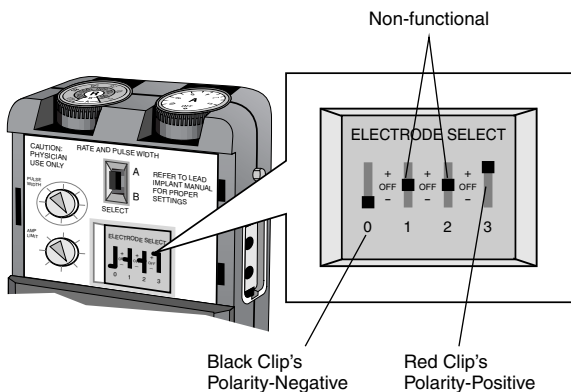

Figure 6. Set Electrode Select switches.
Caution: The switches on the 3625 Test Stimulator corresponding to electrodes 0 and 3 must be manually set to establish a circuit. One switch must be positive and the other switch negative. If the 0 and 3 electrode switches are not set accordingly, no stimulation will result. Refer to Figure 6, page 25.
- a. Set the **ELECTRODE SELECT** switch polarities as shown (Figure 6).